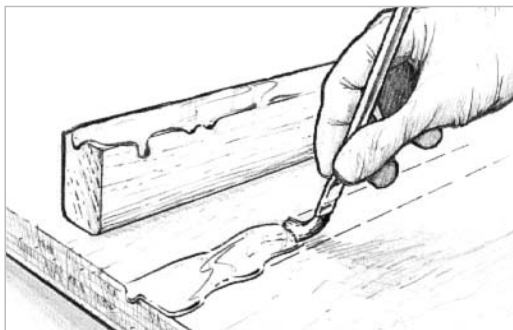

Figure 9-8 Wet out bonding surfaces with unthickened epoxy for maximum penetration and greater adhesion.
1. **Wet-out bonding surfaces**—Apply a straight resin/hardener mixture (without fillers) to the surfaces to be joined (Figure 9-8). Wet out small or tight areas with a disposable brush. Wet out larger areas with a foam roller or by spreading the resin/hardener mixture evenly over the surface with a plastic spreader. You may proceed with step two immediately or any time before the wet-out coat becomes completely tack free.